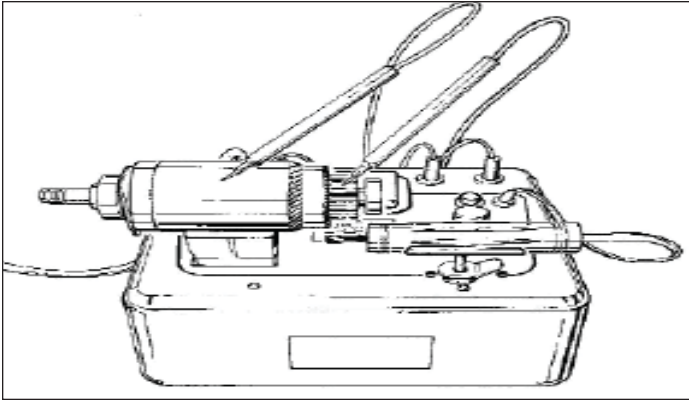

Figure 9-11. Checking Armature for Grounded Circuits
1. Check armature for grounded circuits by placing one test lead of a Dielectric Breakdown Tester, also referred to as a “growler”, on the commutator and other lead at armature shaft. The ground test light should not flash. A flash indicates failed insulation between core and armature wiring. See Figure 9-11.